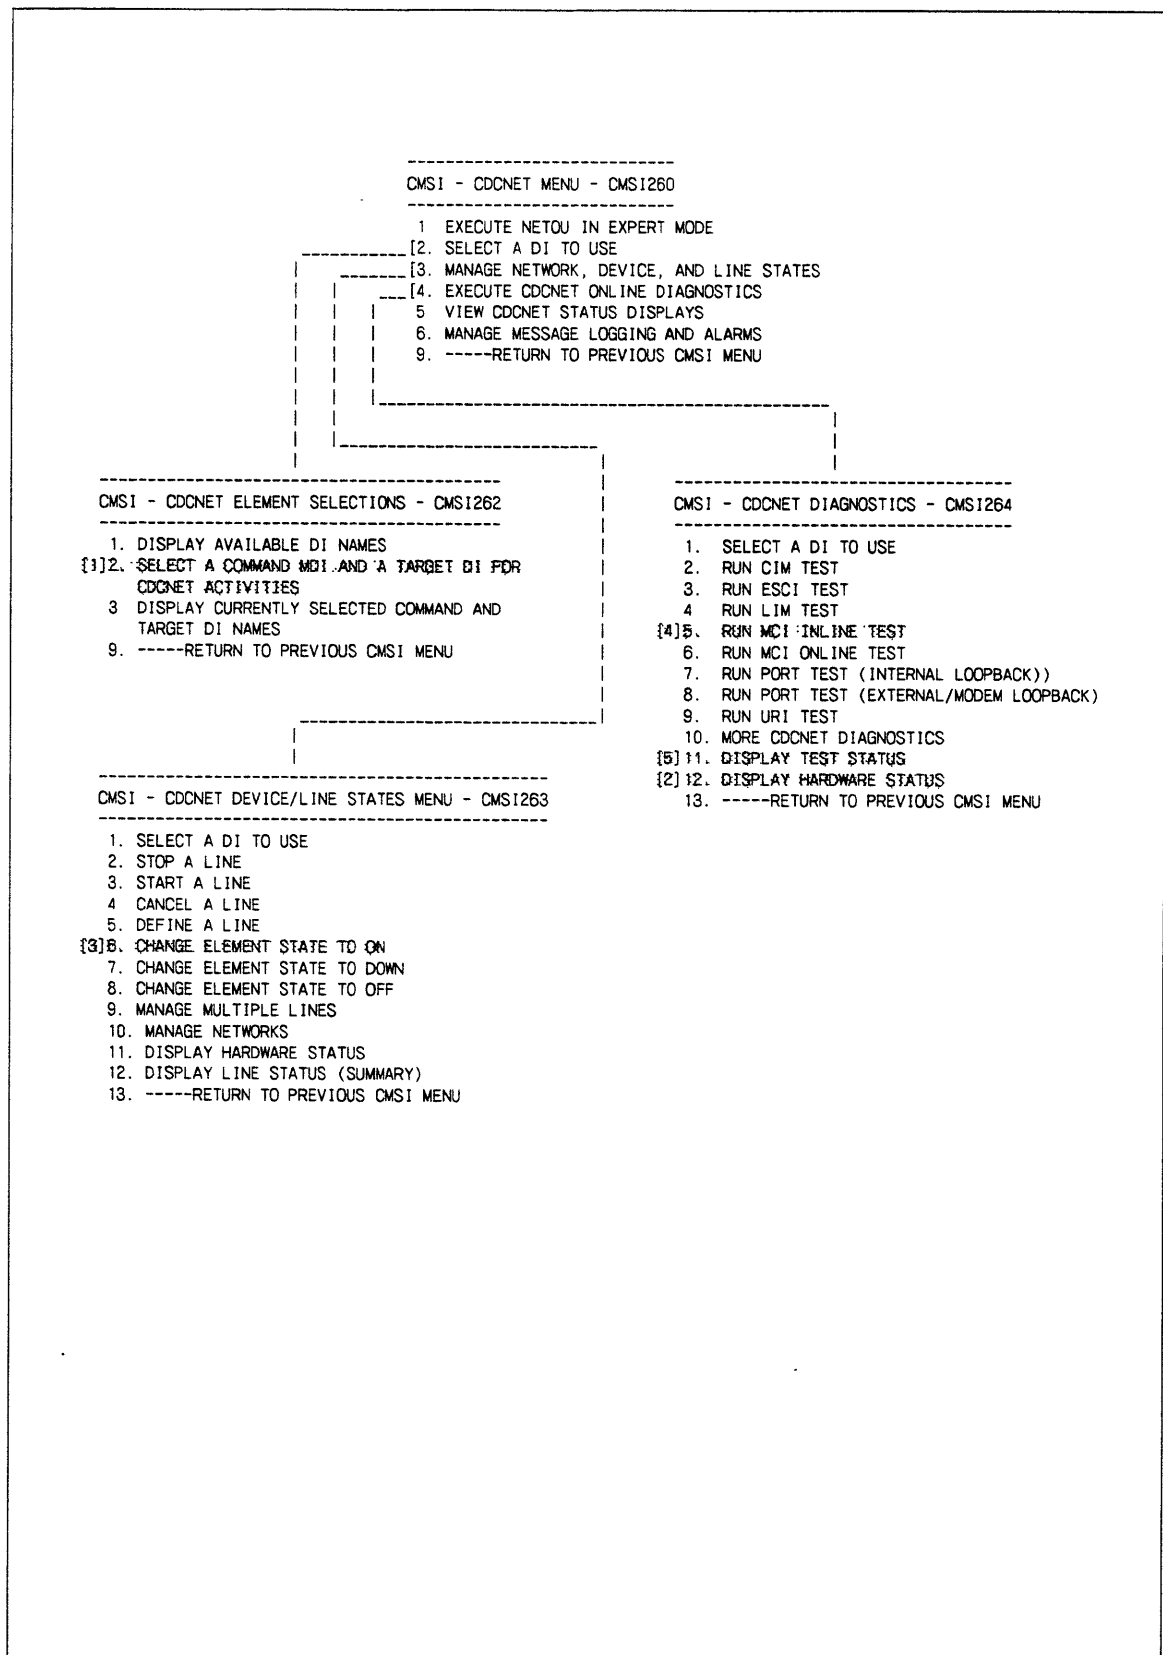

Figure 6-27. CMSI Menus for MCI Inline Test
The following shows the sequence of actions necessary to run the MCI inline test. Each menu choice is shown on figure 6-27 and described below. The purpose of this topic is to serve as a quick reference for the most frequently used menu selections. See chapter 4 for a complete description of CMSI. Familiarize yourself with the MCI inline test notes and procedure given earlier in this topic before running the test.
1. Numbers in this column correspond to the bracketed numbers (for example, [1]) on figure 6-27.